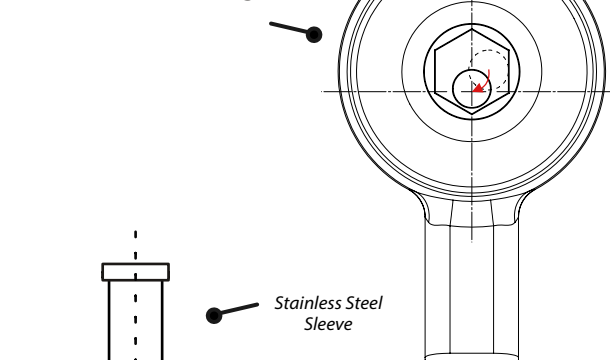

Figure 2
6. For maximum caster, use the supplied spanner to rotate the sleeve so that the bore is positioned facing down the length of the arm as shown in Fig. 2